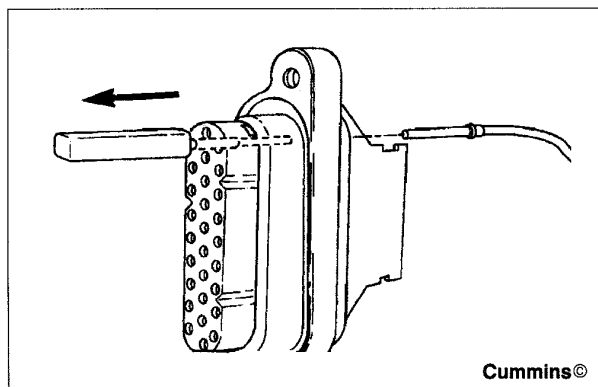

Figure 75 Push Wire into Cavity
10. Insert the repair terminal into the connector body. Remove the tool. Push the wire into the cavity until it clicks (Figure 75). Then pull on the wire while holding the connector firmly. The terminal must hold the wire in the connector.